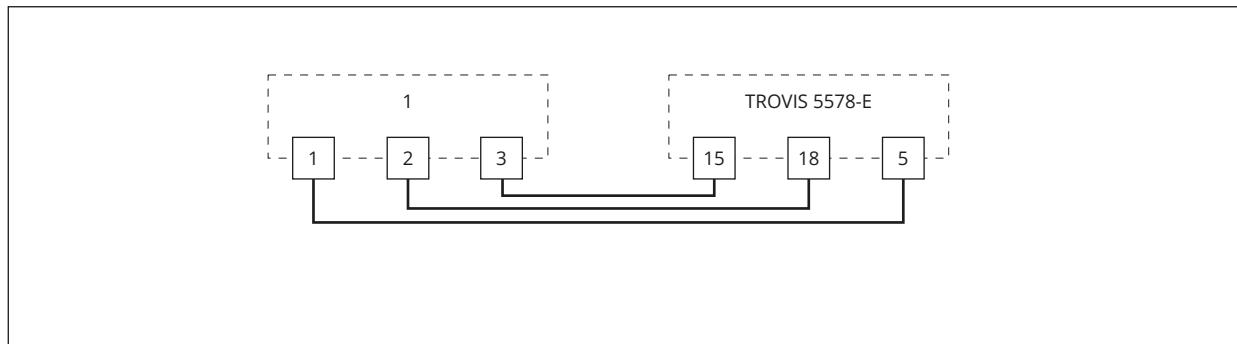
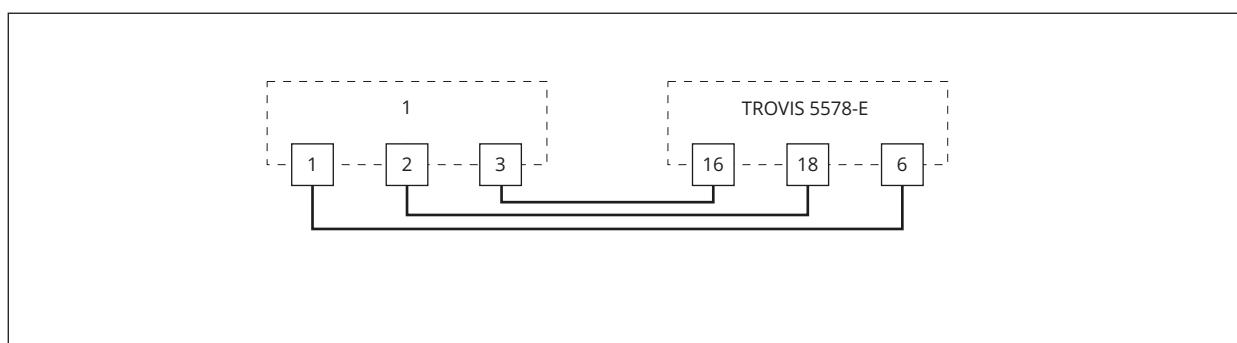
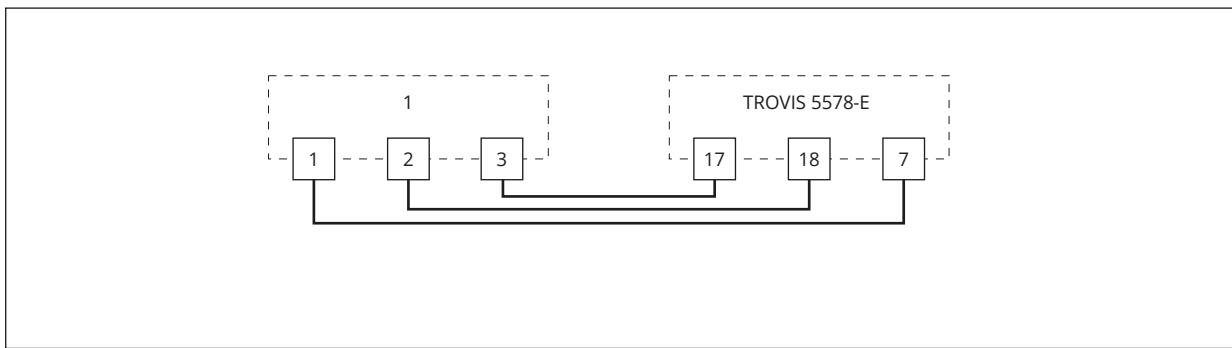

Fig. 5: Wiring of a room panel for RK1
Fig. 6: Wiring of a room panel for RK2
Fig. 7: Wiring of a room panel for RK3
- ⇒ Connect as shown in Fig. 5, Fig. 6 and Fig. 7.